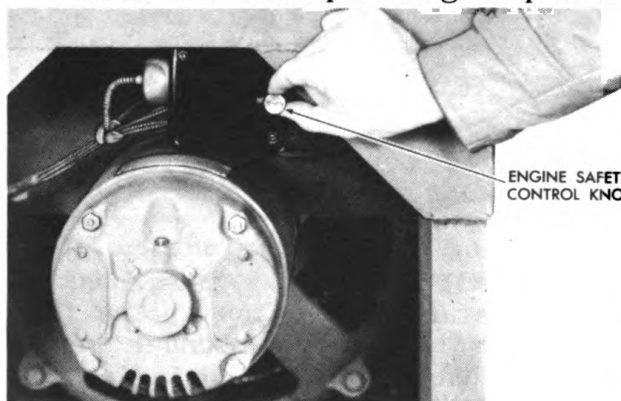

Figure 16. Location of Safety Stop Control
1. Turn the safety stop knob to on position, that is, pointed to the left. **NOTE:** The safety stop control is mounted at the rear of the unit underneath the control panel. See Figure 16.